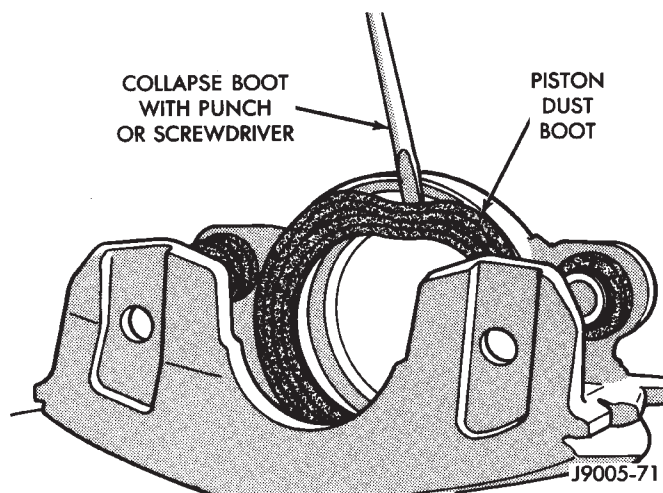

Fig. 67 Caliper Piston Dust Boot Removal
(5) Remove caliper piston dust boot with suitable pry tool (Fig. 67).